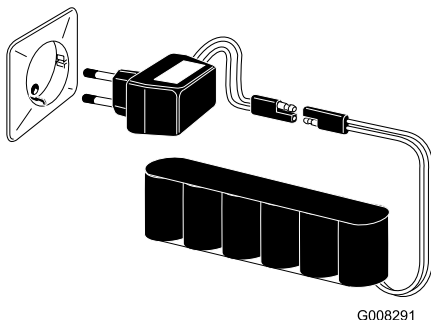

Figure 27
3. Connect the charger to the battery (Figure 27).
4. Plug the charger into a wall outlet and charge the battery for **24 hours** (Figure 27).